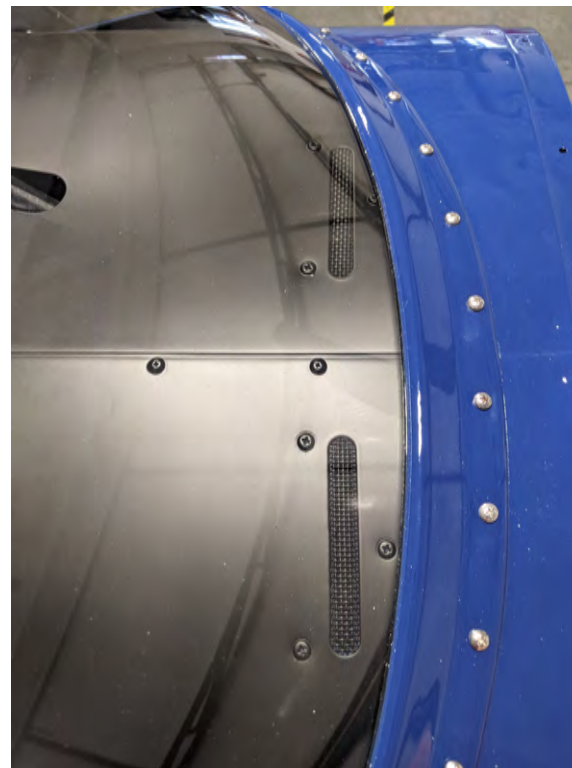

Figure 1 - Defrost Vents
- Permanently install SK25008-001 onto the boot using 6X MS35214-25 screws from the top, sandwiching 2X SK53002-001 mesh screens between the lower surface of the bootcowl and the composite duct assembly. Finished product shown in Figure 1.